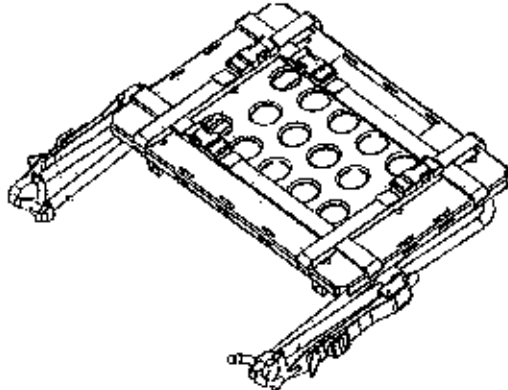

Figure 79
1. Place the defibrillator platform in the stored position as shown in Figure 79.